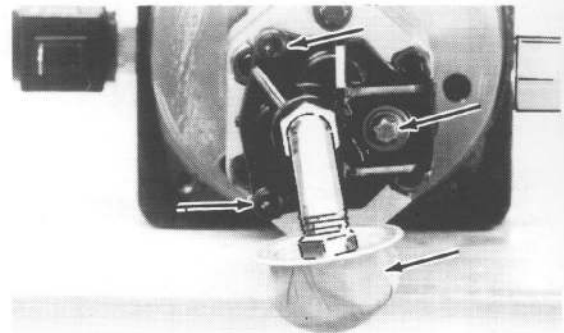

Figure 2-21
5. Unscrew the filter screen (hold it by the metal cover, not by the screen) and clean it with a suitable solvent. Blow dry with compressed air from the inside. See Figure 2-21.
6. Remove the pump inlet suction cover (two screws, one bolt). See Figure 2-21.